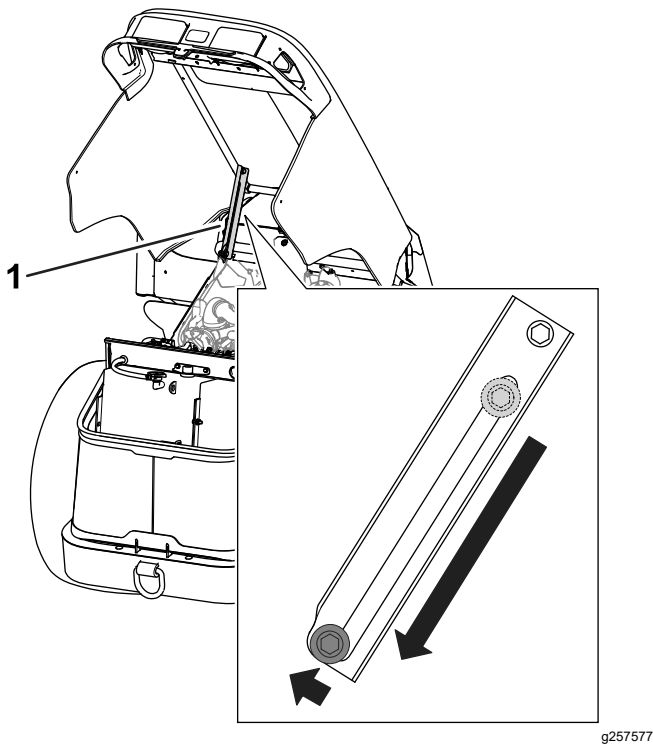

Figure 71
3. Ensure that the hood-prop bolt is in the prop detent to hold the hood in a raised position (Figure 71).